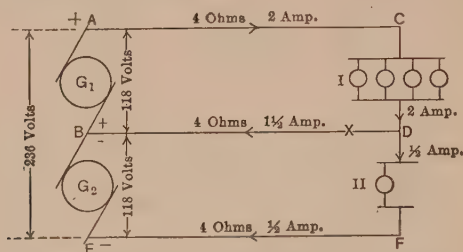
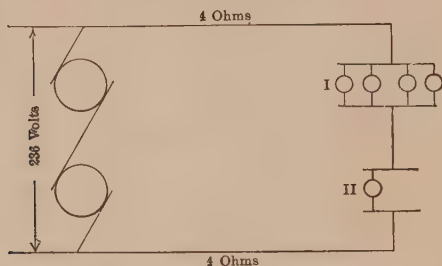

FIG. 94. Three-wire system; unbalanced. Neutral carries some current.
FIG. 98. Effect of broken neutral in the three-wire system of Fig. 94.
and carries current, as in Fig. 94. The system may be said to be unbalanced, then, when the appliances on one side of the neutral are carrying more current than those on the other side, thus compelling the neutral to carry the surplus. Thus, if four  $\frac{1}{2}$ -amp. lamps were turned on, as in Fig. 94, on
Of course on a large system any slight deviation from a balance makes no noticeable difference, but it is instructive to see what happens to the voltage distribution in a system unbalanced as much as that of Fig. 94.
**Prob. 100.** If there were 8 lamps in Group I and 2 lamps in Group II, Fig. 94, each taking  $\frac{1}{2}$  amp., other things remaining unchanged, what would the voltage across each group become?
Consider the neutral in Fig. 94 broken at (x). We should then have a series circuit as in Fig. 98.